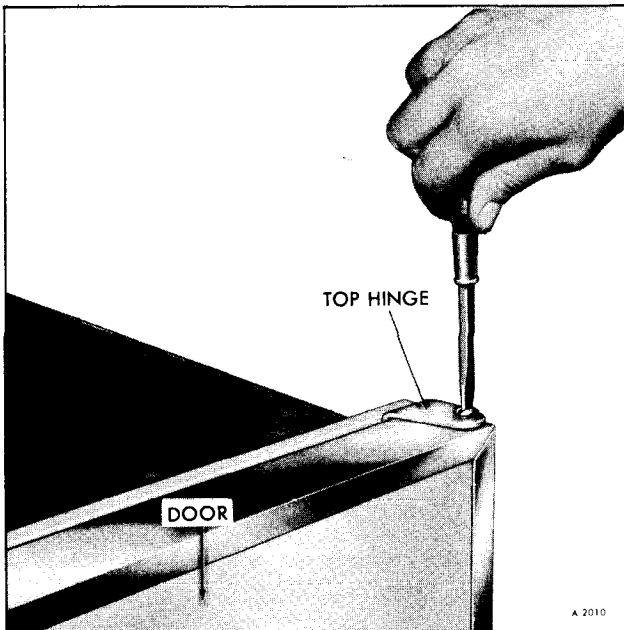

Figure 7—Removing Top Door Hinge
1. Remove screw at top of door hinge and release travel lock (figure 7).
2. Install top hinge pin (figure 7), and fasten travel lock.